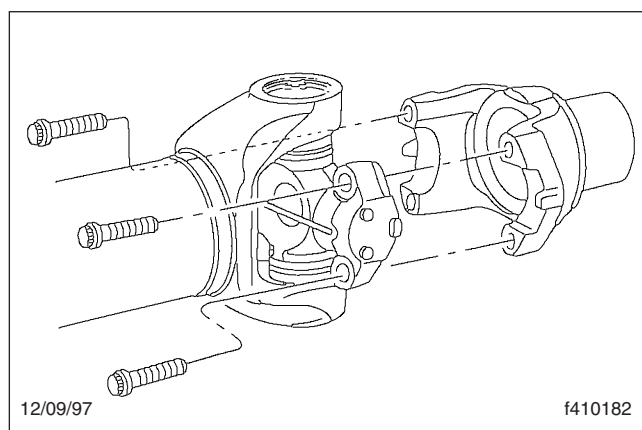

Fig. 4, Meritor RPL Series U-Joint
RPL Series U-Joints with Bearing Cups (Fig. 4)	125 (169)